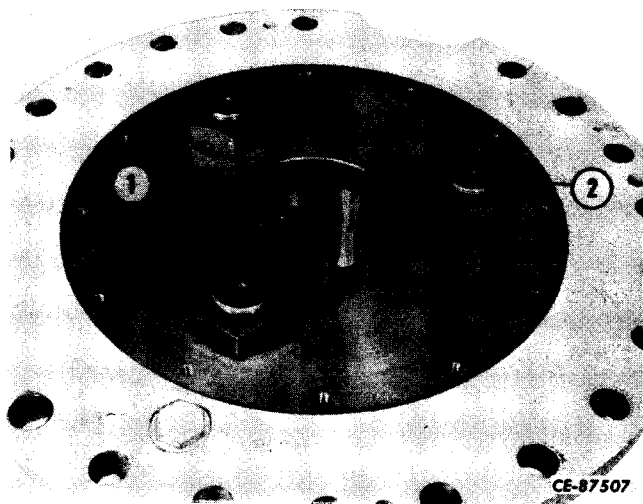

Figure 6-43
The spacer (10, Fig. 6-43) on units so equipped, has a recess which fits over ring (9) when assembled.
When all pinion shafts (2, Fig. 6-43) are installed in carrier, install hex nuts (1) and tighten to recommended torque (refer to Section VI under "SPECIAL TORQUES").